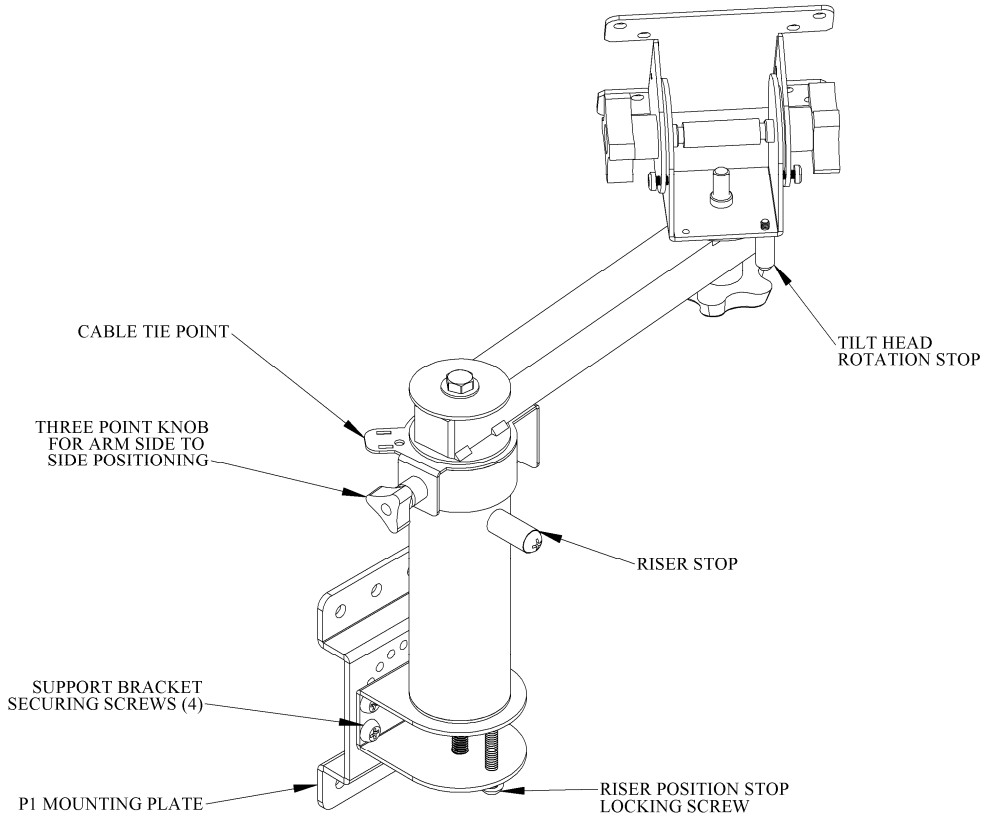

Figure 2 - UVHM-SM-R6-VESA
1. Preassemble the mount for the desired configuration with the tilt head and/or printer tray attached, but without the equipment installed (See Figure 2).
The tilt head stop keeps the tilt head from doing a full rotation around the end of the arm (See Figure 2). This protects the cabling that connects to the equipment from being wrapped around the tilt head and possibly becoming damaged. The tilt head is set at the factory to prevent the arm from being rotated one entire revolution to the left. If this setting does not work for your application, the riser stop can be easily removed from the bottom of the tilt head with a Philips screwdriver and installed on the other side.
1. Slightly loosen the three point knob on the side of the riser cap enough so that the arm will move freely (See Figure 2).
The riser stop keeps the arm from doing a full rotation around the riser (See Figure 2). This protects the cabling that connects to the equipment from being wrapped around the riser and possibly becoming damaged. The riser stop is set at the factory to prevent the arm from being rotated one entire revolution to the left. If this setting does not work for your application, the riser stop can be easily adjusted.
2. Using a Philips screwdriver, remove the riser stop screw and plastic spacer from the side of the riser (See Figure 2).
Route the data and power cables and connect them loosely to the printer. After testing your printer for correct operation, use small plastic cable ties, or hook and loop ties, to attach the cables to the metal tie loops at the rear of the printer tray, be sure that the cable connectors will not be strained when the printer repositioned. Then with more ties, form the printer cables into a single bundle to create a cable leash that extends from the rear of the printer tray, to the tie point on the top of the riser cap (See Figure 2), and then down to a point near the mounting plate location. Be sure to leave enough slack cable so that the printer can be moved through its entire range of motion around the end of the arm, AND so that the arm can be moved around the top of the riser cap.